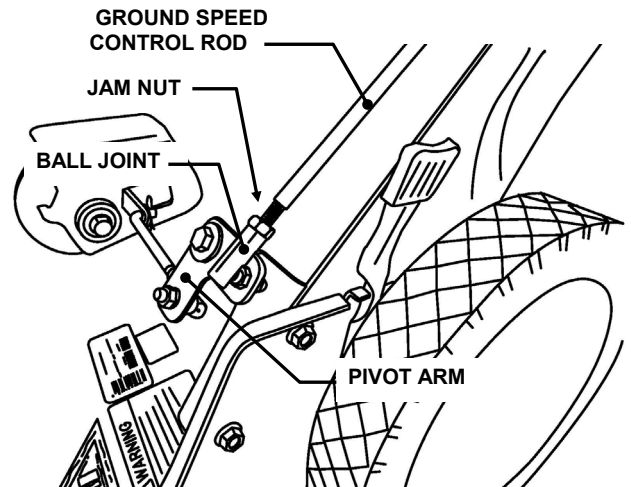

FIGURE 12
4. Install threaded end of Ground speed control rod, fitted with one 1/4-28 jam nut, into ball joint on end of speed control pivot arm. See Figure 12. **IMPORTANT: Do not move pivot arm.**